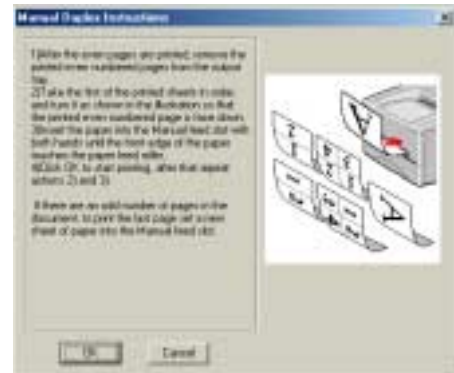

Fig.2-10
- (1) Select the required manual duplex printing mode and manual feed mode from the driver.
- (2) Using both hands, insert the paper into the manual feed slot with the side to be printed first facing upwards. Follow the instructions on the computer screen.
- (3) Repeat action (2) until you have printed all the even numbered pages.
- (4) Remove the printed even numbered pages from the output tray
- (5) Re-insert them in order into the manual feed slot, loading the paper with the side to be printed (blank side) face up, and the top edge towards the printer. Follow the instructions on the computer screen. (Fig. 2-10)
- (6) Repeat action (5) until you have printed all the odd numbered pages on the reverse side of the paper.